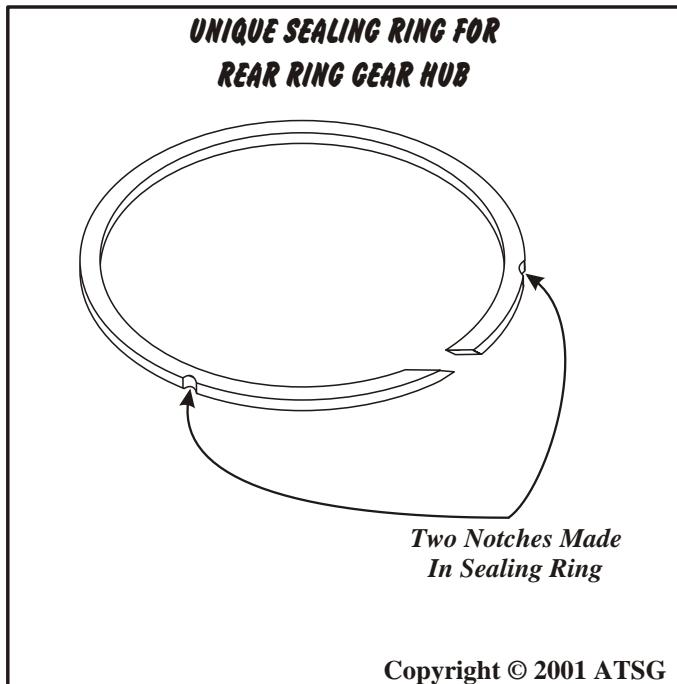

Figure 98
- Caution: This sealing ring is manufactured with two small notches in the outside diameter as shown in Figure 98, and must be installed in this location.**